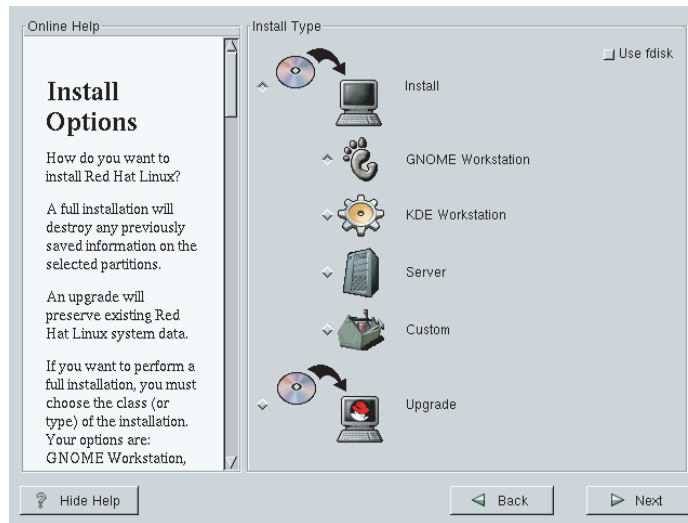

Figure 1-1 Install Type Options
11. Click the `Install and GNOME Workstation` option buttons (if not already selected by default) in the `Install Type` window; click *Next* to continue (refer to Figure 1-1).